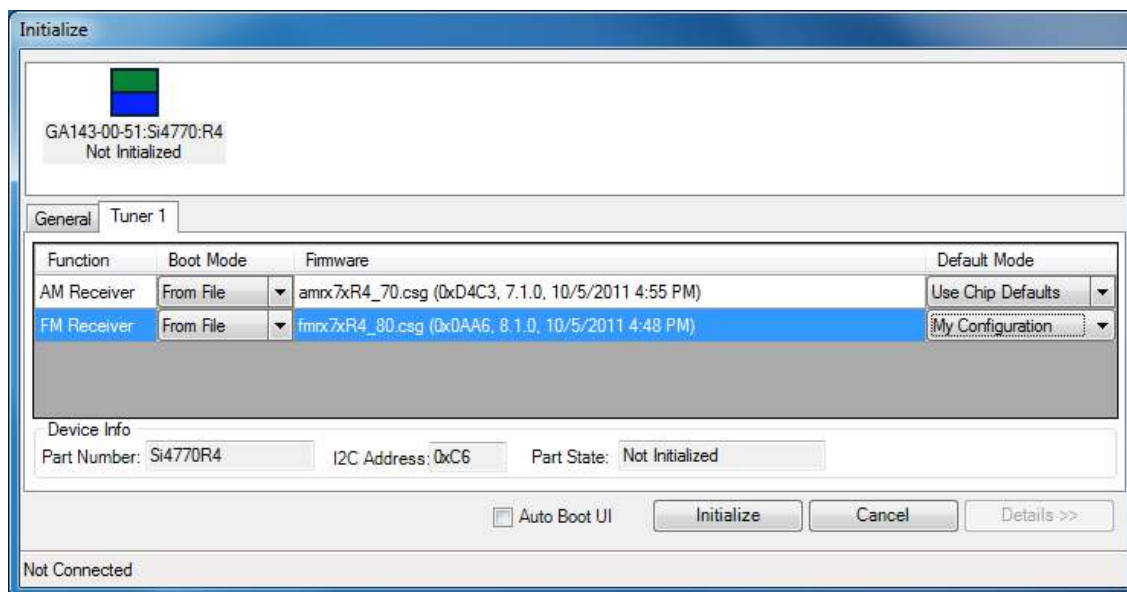

Figure 13. Power Up from Saved Configuration State
2. In Figure 13 below configuration state My Configuration is selected. Once the selection is made, click on Initialize and the part will boot with the property values stored in the My Configuration state.